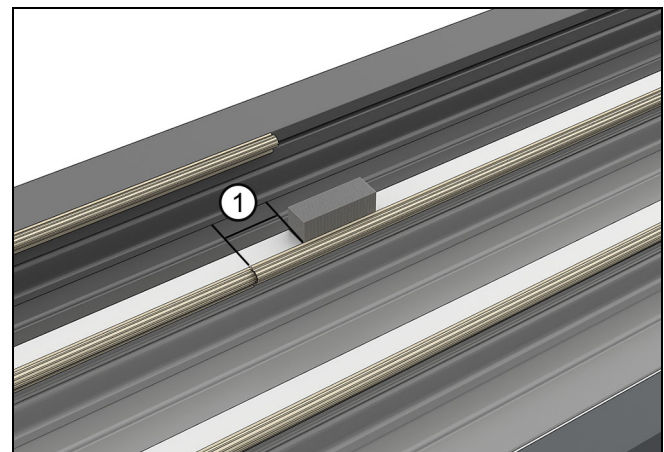

Figure 43
11. Place dust block(s) on the frame clips approximately 7/8" (22) from the splice (on the stationary or pocket side). These will line up with the edge of the panels. See Figure 43.